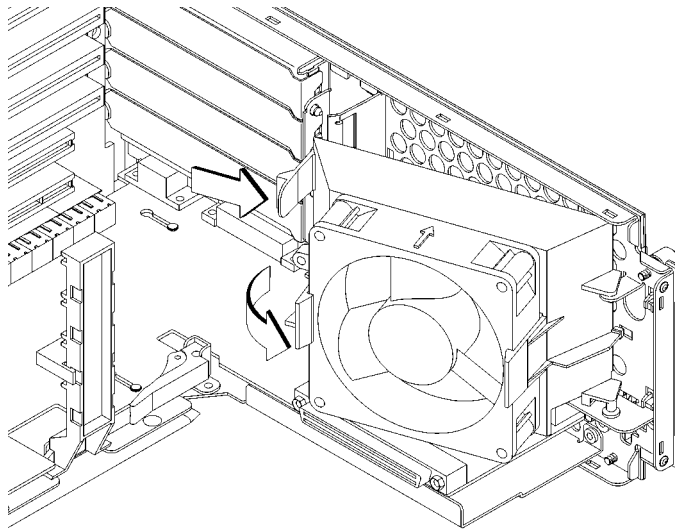
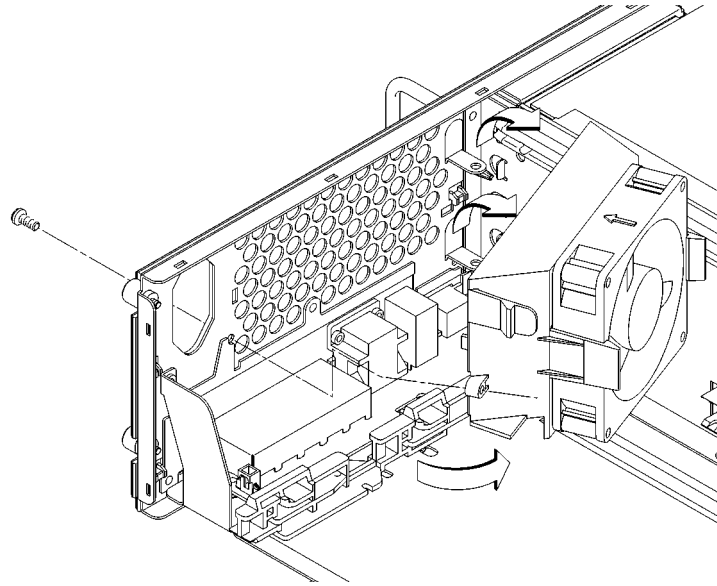

Figure 52 **Removing the EISA Area Fan Assembly**
Figure 53 **Removing the CPU Area Fan Assembly**
- 2 Press the retaining clip and swing the fan assembly out from the back panel, as shown in Figure 52 and Figure 53.